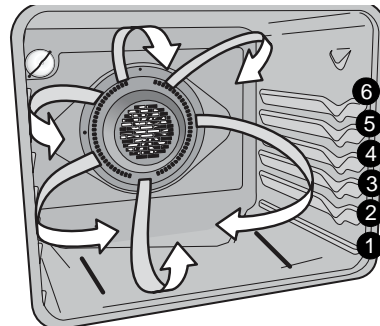

Figure 14: Convection air flow
The convection function uses a fan to circulate the oven heat uniformly and continuously around the oven (Figure 14). This improved heat distribution allows for fast, even cooking and browning results. It also gives better baking results when using two oven racks at the same time.
- For best results when baking cakes using two oven racks, place racks in positions 3 with offset rack and 5 using flat rack (See Figure 14).